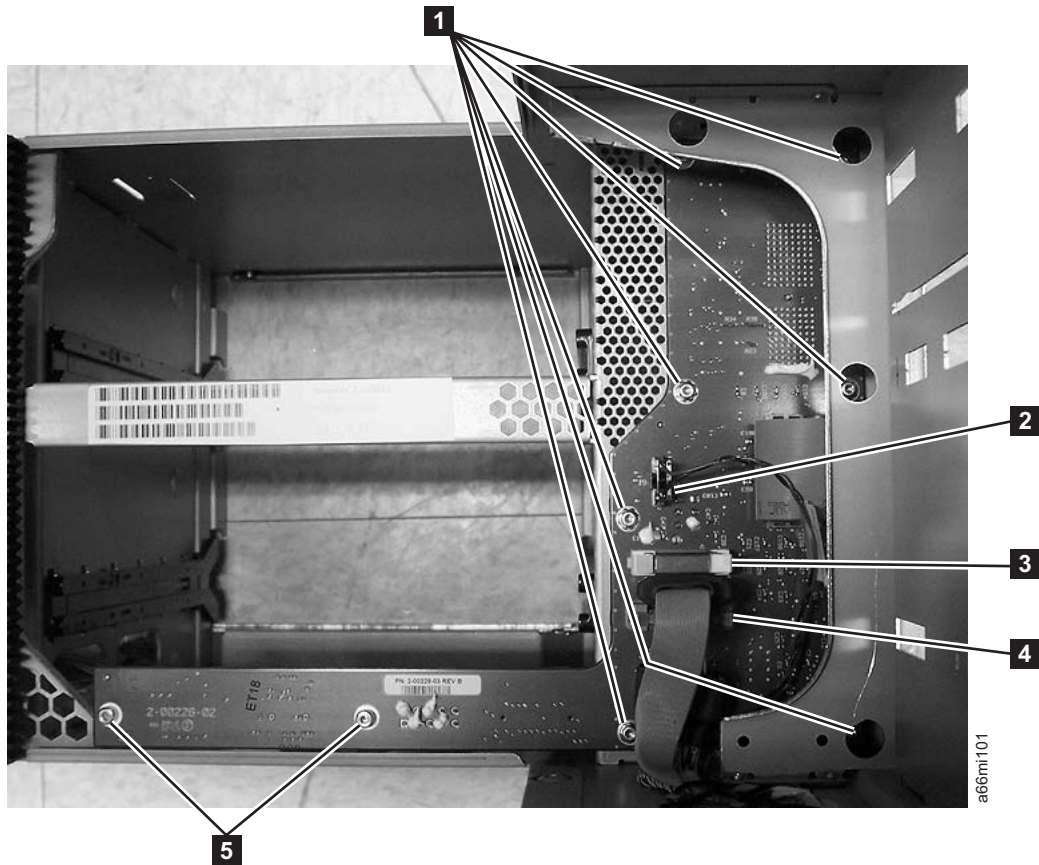

Figure 8-111. Backplane Connector Board (BCB), Front View
- c. Unplug cable connectors J9 (see **2** in Figure 8-111 on page 8-103), J16 (see **3** in Figure 8-111 on page 8-103), and J15 (see **4** in Figure 8-111 on page 8-103) from the BCB.
- a. Remove the 2 T8 Torx shoulder screws (**5** in Figure 8-111 on page 8-103) holding the lower part of the BCB.
- b. Remove the 7 T10 Torx screws (**1** in Figure 8-111 on page 8-103) holding the remainder of the BCB.
Tip: When installing the new BCB it is easier to start the board mounting screws (**1** and **5** in Figure 8-111 on page 8-103) if you first stand the control module enclosure on end.